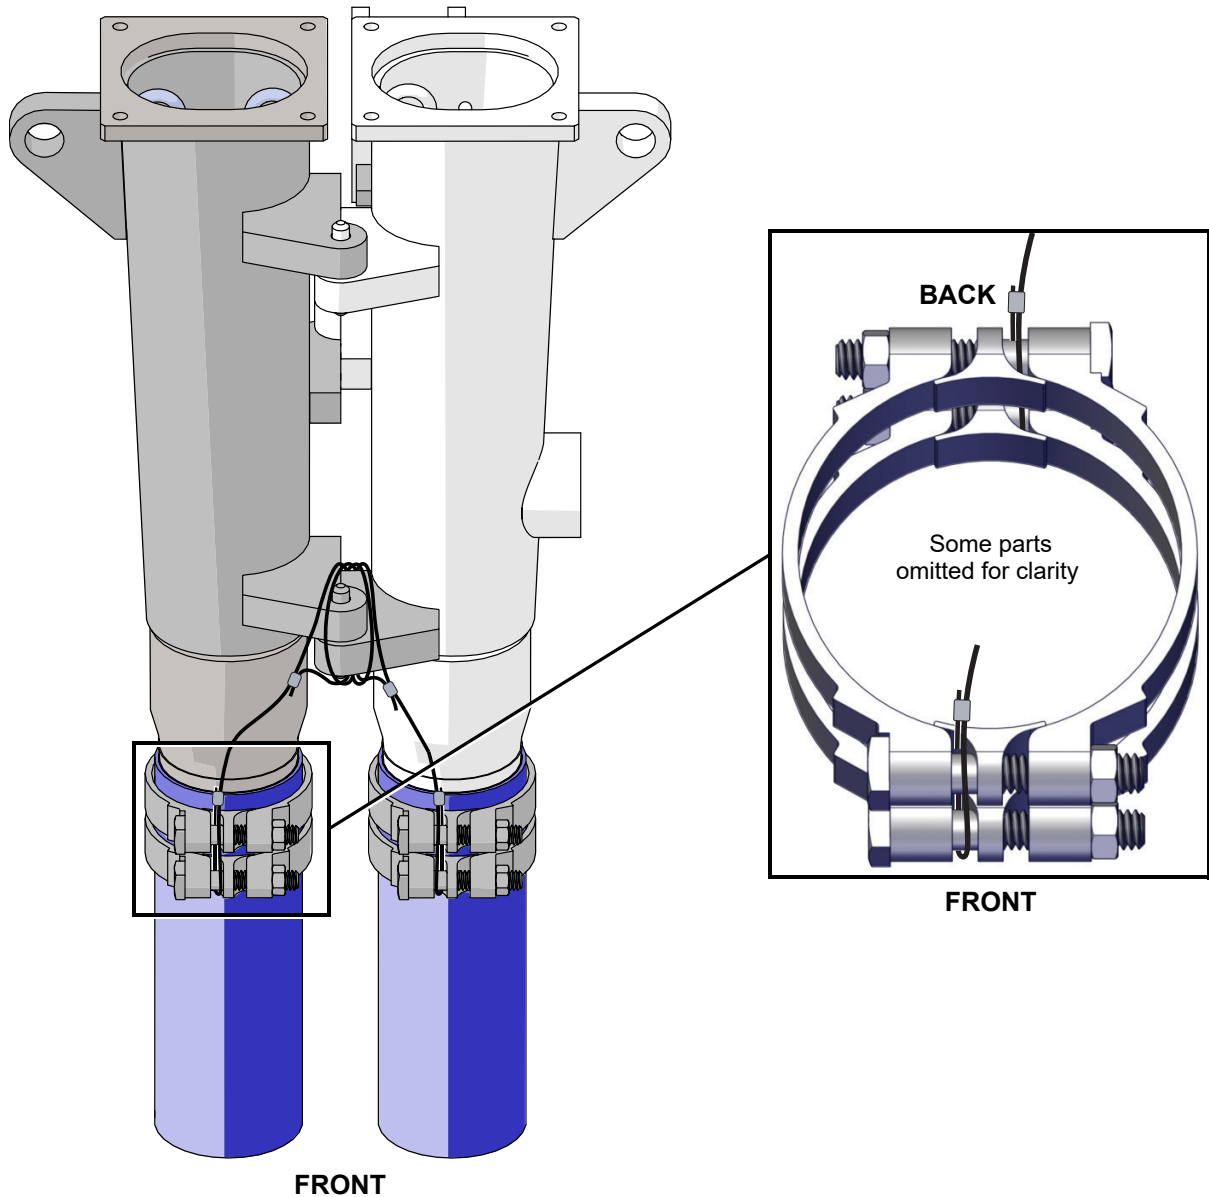

Figure 3: Double bolt clamps safety securement – Dual electrical service loop
- Add safety securement to the hose clamps as shown in Figure 3 on page 3